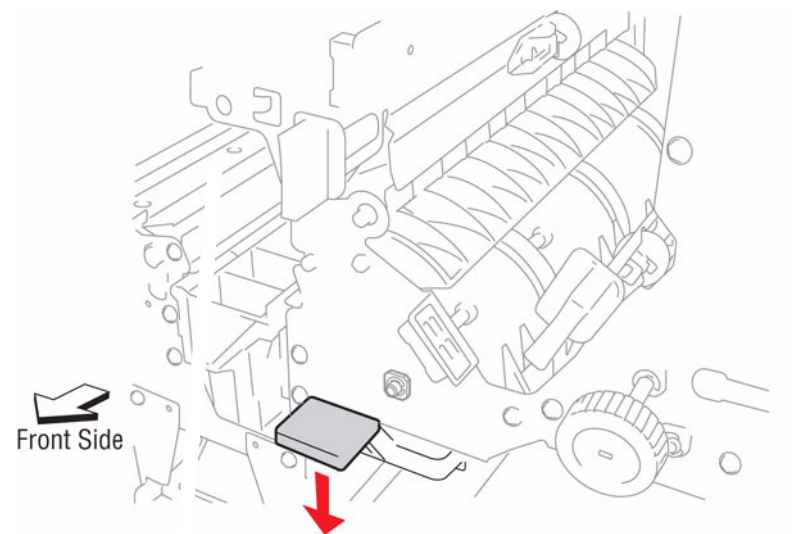

Figure 2 Bottom Buffer Chute Assembly
- a. Lower the Bottom Buffer Chute Assembly (Figure 2).